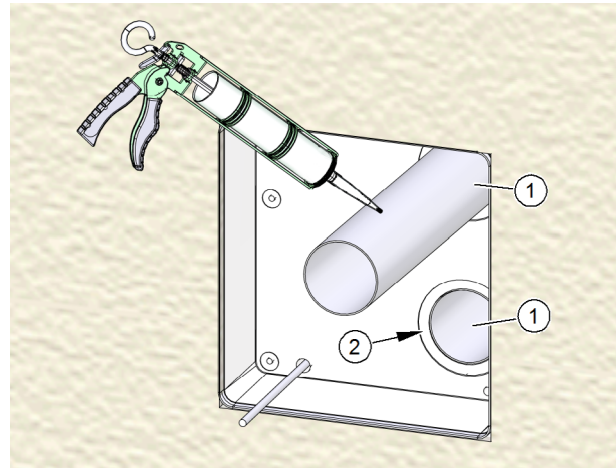

Fig. 23: Inserting and fixing ventilation pipes
- ▶ Apply low modulus sealant to the outer skin of the ventilation pipes (item 1 in Fig. 23).
- ▶ Twist the two ventilation pipes into the openings in the wall box until they end flush (item 2 in Fig. 23).